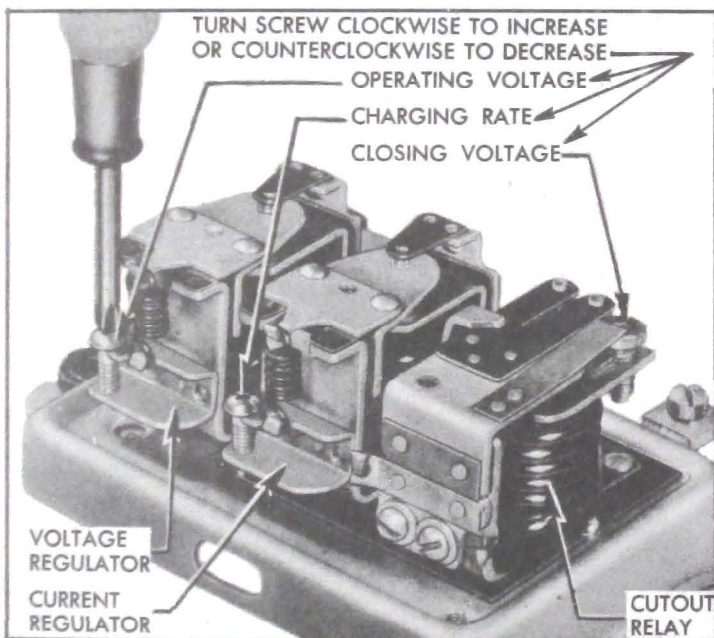

Figure 10-16—Generator Regulator Spring Tension Adjustments
11. If cutout relay operation is otherwise satisfactory but closing voltage is not between 11.8 and 13.6, remove regulator cover and adjust relay armature spring tension to obtain closing voltage of 12.8. Adjusting screw has a *left-hand thread*, therefore turning screw clockwise increases spring tension and closing voltage; turning screw counterclockwise decreases closing voltage. See figure 10-16. After adjustment install cover and recheck closing voltage.
20. If contact points are in satisfactory condition but either the voltage or current regulator did not operate within specified limits, adjust armature spring tension as required. Turn adjusting screw clockwise to increase operating voltage or charging rate; turn counterclockwise to decrease operating voltage or charging rate. See figure 10-16. *The final setting must always be made by turning screw clockwise to increase voltage or charging rate—never by turning screw counterclockwise.*
10. If relay closing voltage is not between 11.8 and 13.6, remove regulator cover and adjust relay armature spring tension to obtain closing voltage of 12.8. Adjusting screw has a *left-hand thread*, therefore turning screw clockwise increases spring tension and closing voltage; turning screw counterclockwise decreases closing voltage. See figure 10-16. *After adjustment, install cover and recheck closing voltage.*
18. If either the voltage or current regulator did not operate within specified limits, remove regulator cover and adjust armature spring tension as required. Turn adjusting screw clockwise to increase operating voltage or charging rate; turn counterclockwise to decrease operating voltage or charging rate. See figure 10-16. *The final setting must always be made by turning screw clockwise to increase voltage or charging rate—never by turning screw counterclockwise.*